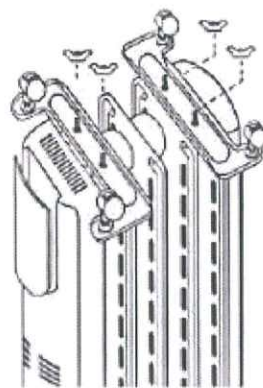
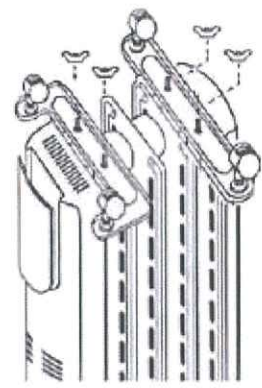

Fig. 4
Fig. 5
2. On the HOIL5 models, note the correct position of the anti-topple castors. The wings on the brackets must be pointing outwards, away from the radiator. Refer to fig.4. On the HOIL7 models, Refer to fig.5